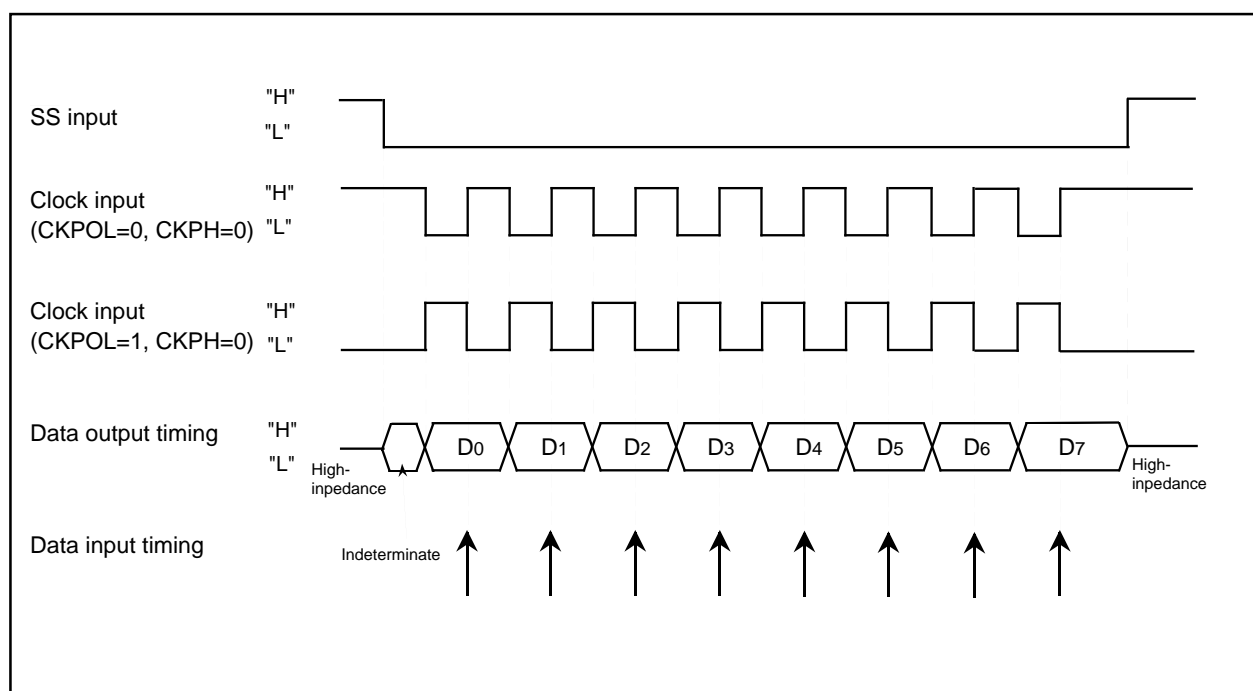

Figure 1.20.8. The transmission and reception timing ($CKPH=0$) in slave mode (external clock)
- With "0" for bit 1 (CKPH) of UARTi special mode register 3 (addresses 0325₁₆ and 02F5₁₆ [*i* = 3 or 4]), when an SSi input pin is H level, output data is high impedance. When an SSi input pin is L level, the serial transmission start condition is satisfied, though output is indeterminate. After that, serial transmission is synchronized with the clock. Figure 1.20.8 shows the timing.